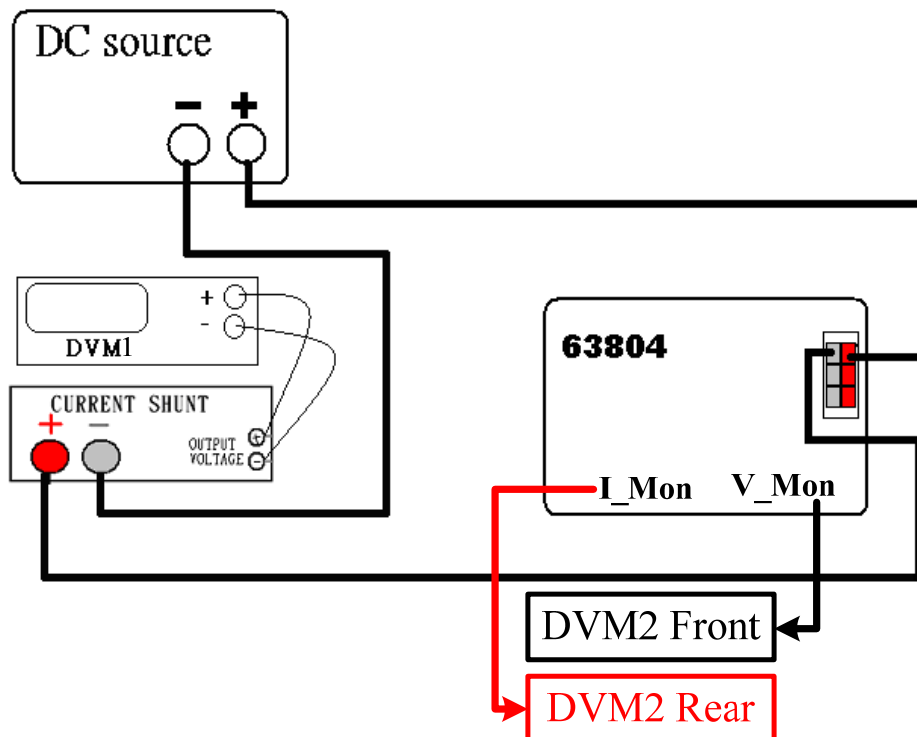

Figure 10-2: AC Load, DC Source, Current Shunt and DVM Wiring Diagram
2. *Figure 10-2:* Use DC Source with high voltage or high current. Current Shunt follows test current to select different ranges, the withstanding current of wire from Source to Shunt and Load needs 45A above. The voltage output of Current Shunt connects to DVM1. Use BNC to alligator clip cable to connect DVM Front terminal to V_Mon terminal of AC Load. However, use another BNC to alligator clip cable to connect DVM Rear terminal to I_Mon terminal of AC Load.